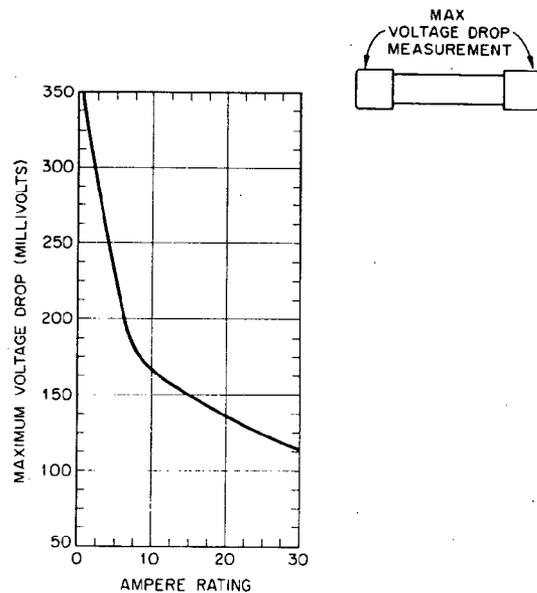

FIG. 4—MAXIMUM VOLTAGE DROP OF FUSE AT RATED CURRENT
5.4 **Maximum Voltage Drop**—The maximum voltage drop (in millivolts) at rated current across the fuse only, shall be as shown in Fig. 4, when measured across the fuse from ferrule to ferrule.